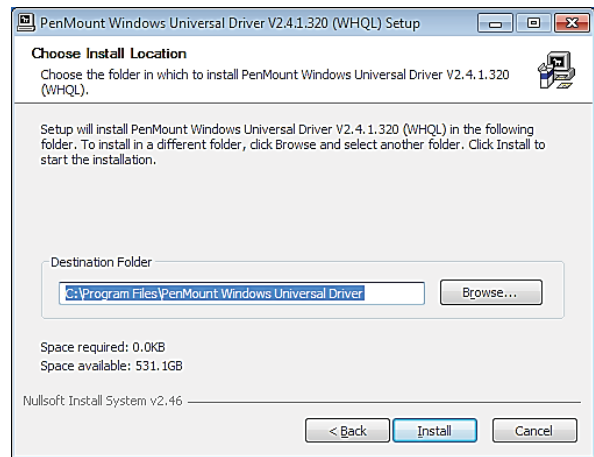

Fig.4
Step 4: Select the destination folder and click “Install” (Fig.4).